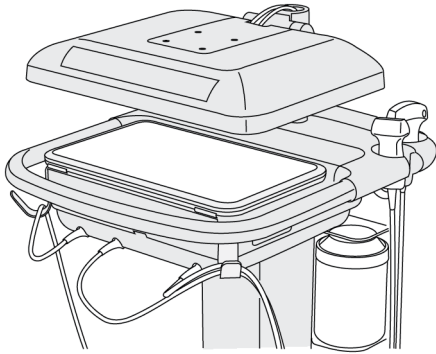

Figure 2-3 Clinical monitor collapsed for system transport
- 3 Fold the clinical monitor downward over the touch panel. Refer to Figure 2-3 on page 2-18.